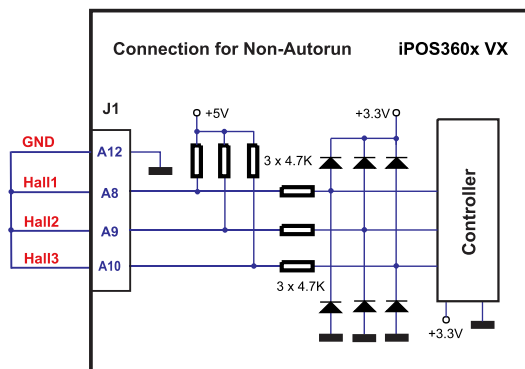

Figure 3.30. Temporary connection during power-on to disable the drive from Autorun mode
- Hardware: connecting all digital Hall inputs to GND, as shown in **Figure 3.30**. This option is particularly useful when you are unable to establish communication with the drive.
In some very rare cases, the setup table might be corrupted, leading to a loop where the drive resets continuously. This behavior can be noticed by seeing both the Ready and Error LED blinking for short periods of time continuously. To recover from this behavior, the setup table can be invalidated by connecting all digital Hall inputs to GND, as shown in **Figure 3.30**.